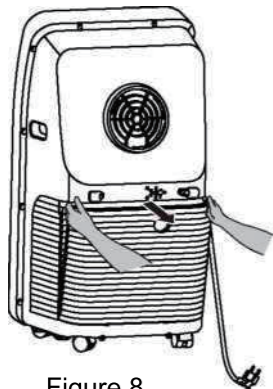

Figure 8
1. Remove the back grill and then filter screen in the direction shown in the picture below (Fig 8,9,10)